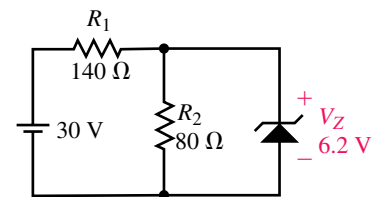

FIGURE 7-61
18. Refer to the circuit of Figure 7-61: